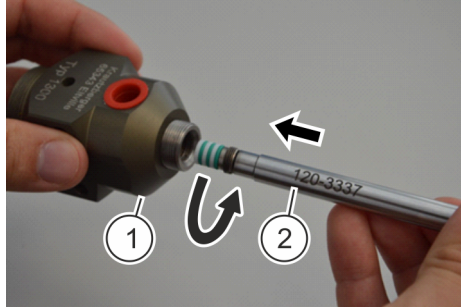

Fig. 15: Assembling the seal pack
7. Carefully slide the seal pack into the main element ( Fig. 15/1) using the assembly tool ( Fig. 15/2). Screw the seal screw into the main element by turning the tool clockwise until you can feel a slight resistance.